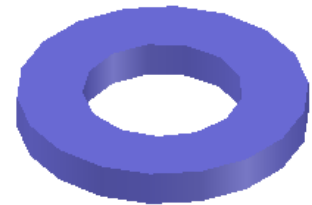

Figure Step 3
Step 3 On layer: Surface Washer, surface the complete model. Use faces, meshes, regions, or a mixture of them. (Figure Step 3)